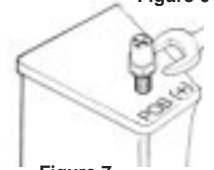

Figure 7
2. Remove wing nut from boat battery Pos. (+) post. Using 7/8" wrench, install Post Adaptor (item ②) on Pos.(+) post of battery.[Fig.7] Tighten firmly (see note 3).